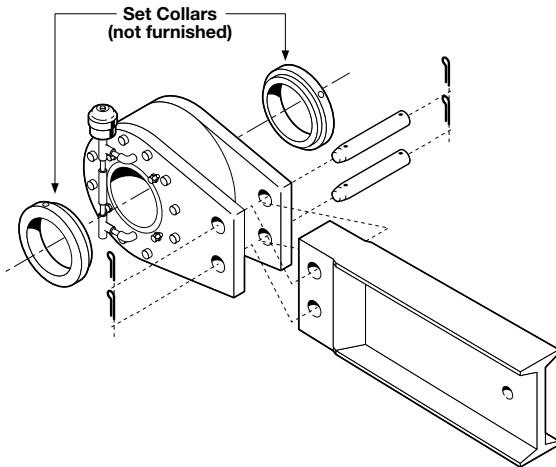

Figure 1
7. Position Holdback and torque arm. Coat torque arm pins and pin holes with anti-seize compound (furnished). Insert pins and cotter keys as shown in (Figure 1).